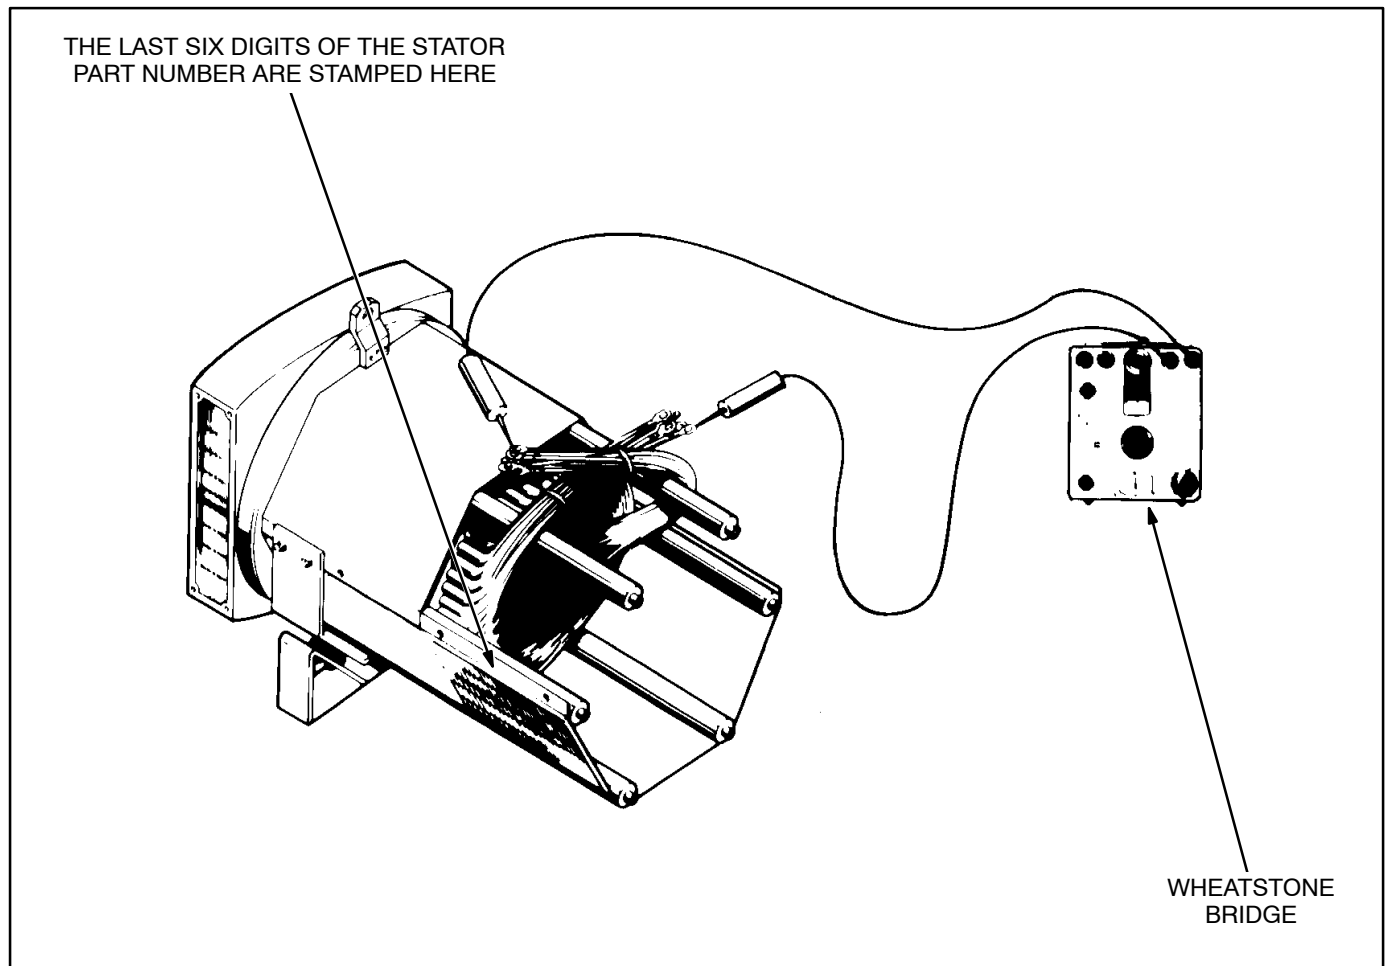

FIGURE 5-6. TESTING THE GENERATOR STATOR
*** - See Figure 5-6 for the location of the stator part number.